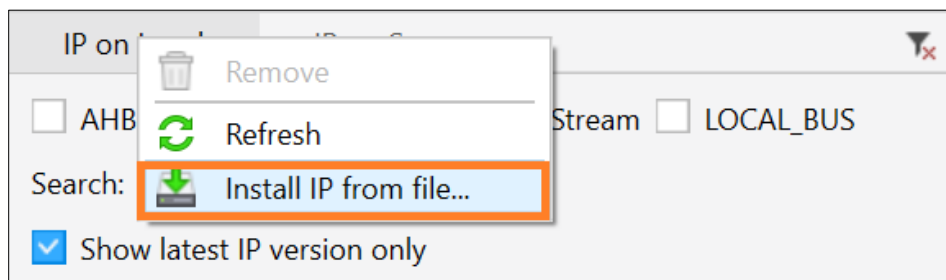

Figure 5.9. Install IP from File
- a. Right-click **IP on Local** and select **Install IP from file...**, as shown in Figure 5.9.